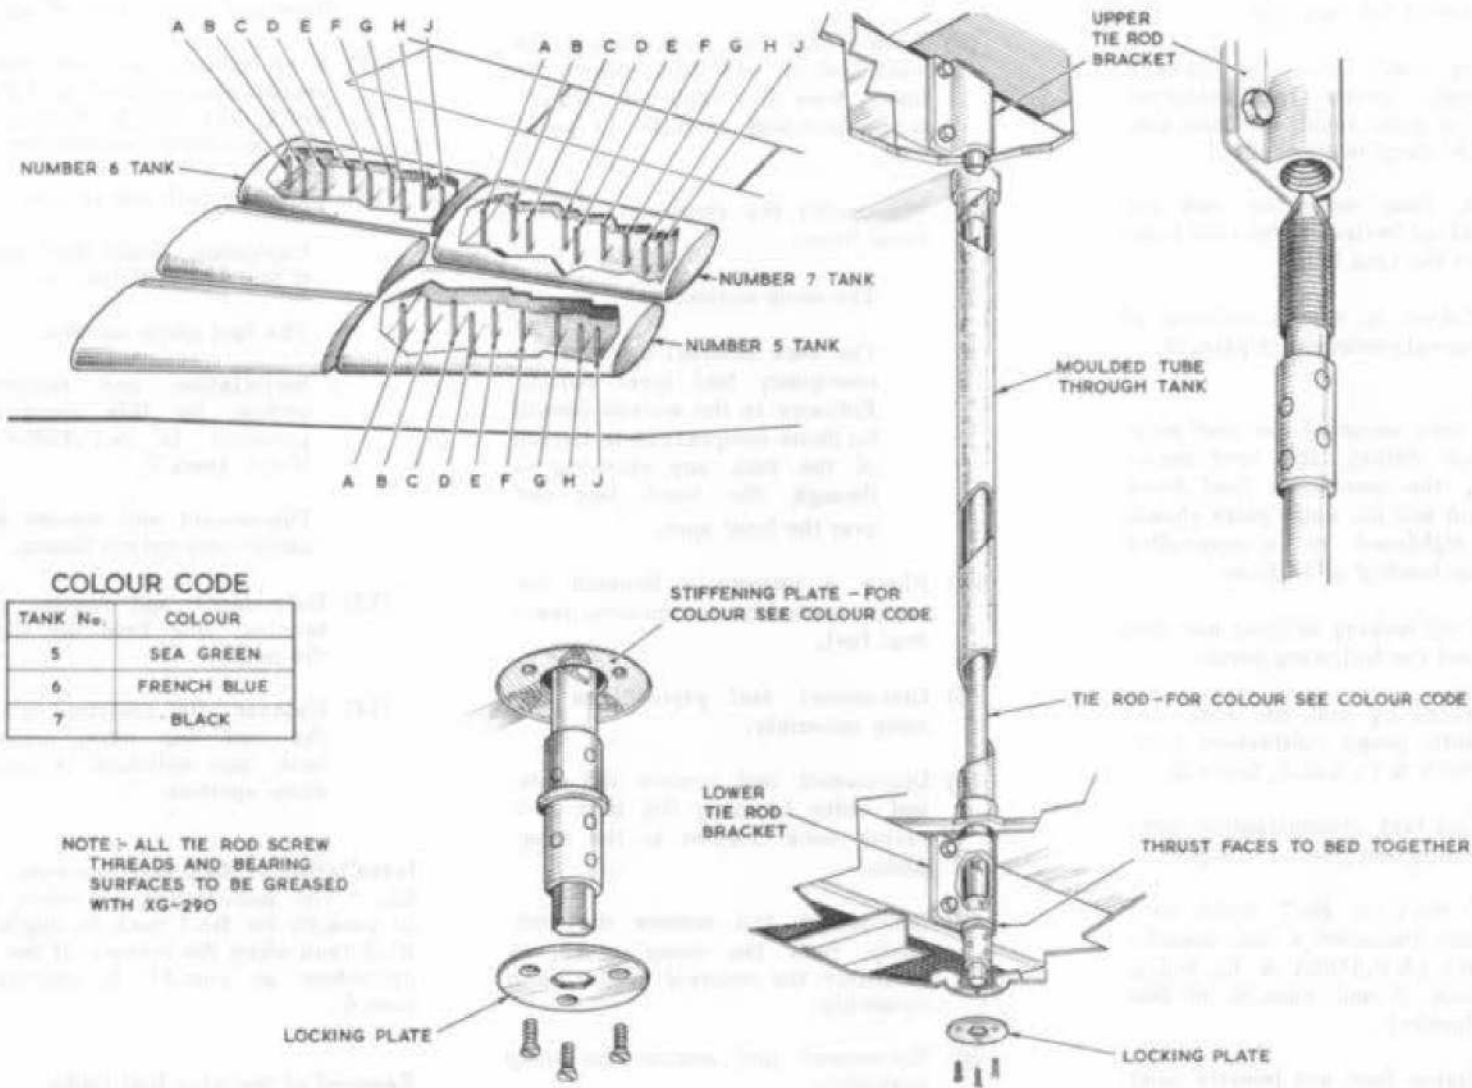

Fig.14. Arrangement of wing fuel tank tie rods.
- (14) Disconnect and remove the tank tie rods, the heads of which are located about the lateral centre line of the tank in the bottom skin of the wing. The tie rods unscrew after removal of the screwed locking plates, (fig.14) (No.5, 6 and 7 tanks only).
- (15) Insert an air pipe through the emergency fuel level switch aperture and vent the tank with a slow and steady flow of air.
- (16) When entering the tank, the safety precautions outlined in A.P. 4117A, Vol.1 and Vol.6, Sect.1, Chap.4 must be strictly adhered to.
(17) Enter the tank and:-